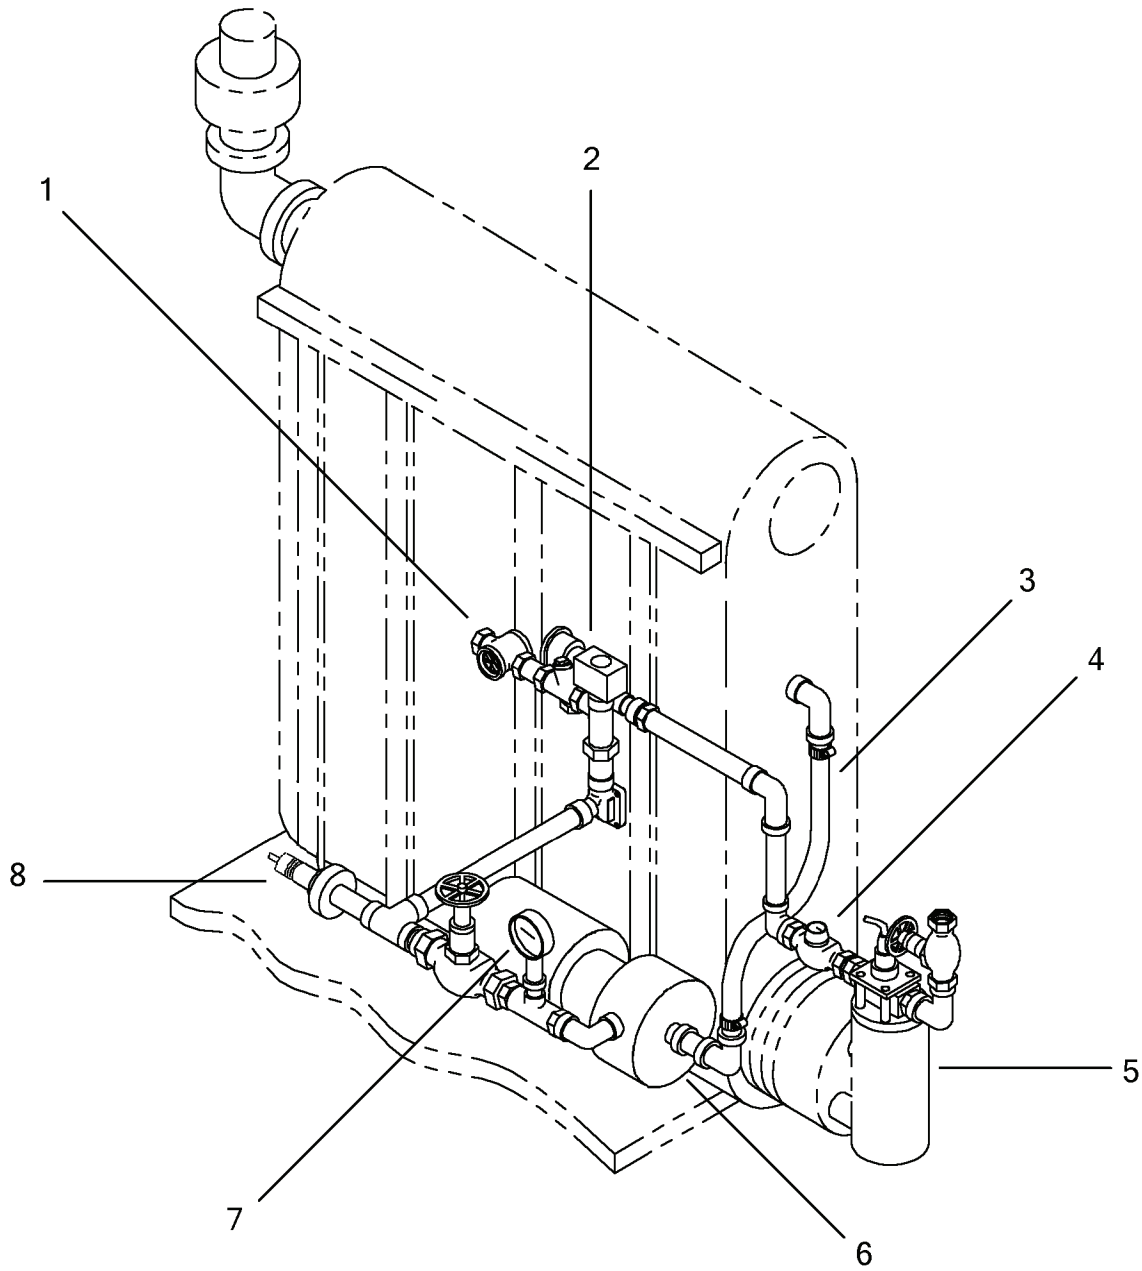

Figure 2-3. Waste Heat Evaporator Distillate Piping Group.
- (1) With the Evaporator closed off (Paragraph 2-7), disconnect the plastic freshwater hose (3, Figure 2-3) at the Evaporator shell and plug the pipe elbow.